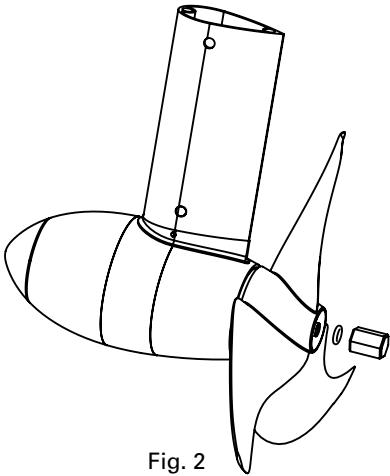

Fig. 2
- Sacrificial anode with thread (fig. 2): Place the 8.5 x 2 O-ring onto the gear shaft and then screw on the sacrificial anode by hand.